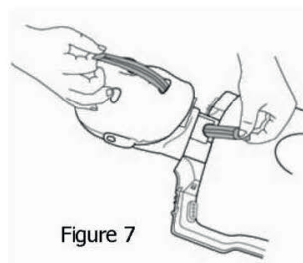

Figure 7
7. Grasp the lung bag and pull it through the neck (Figure 7)